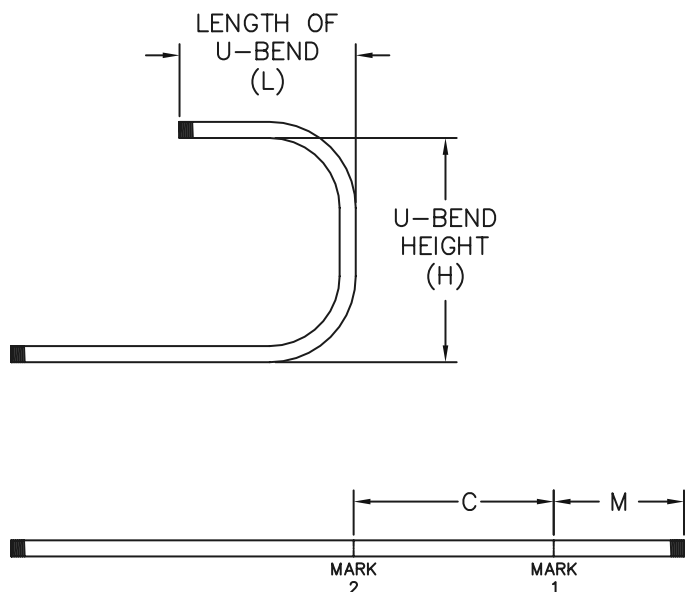

FIGURE 17B
1. Determine the desired height (H) and length (L) for the U-bend (See figure 17B).
3. Under the row corresponding to 90°, locate the "M" value corresponding to the length (L) of the U-bend.